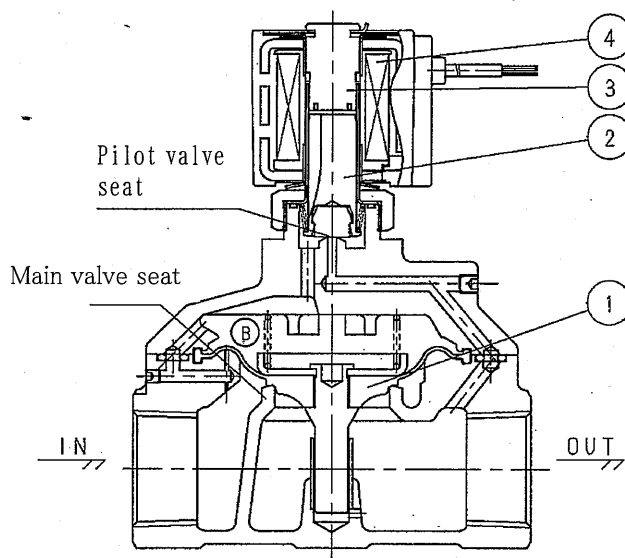

Fig. 20
When the coil ④ is energized, the plunger ② is attracted to the core assembly ③. The liquid in the upper ⑤ chamber of the diaphragm assembly passes through the pilot valve seat, and flows to the "OUT" side. At this moment, the ⑤ chamber pressure drops below the "IN" side pressure, creating a pressure difference. The diaphragm assembly ① rises with this pressure difference, and allows the water to pass. (Refer to Fig.20)